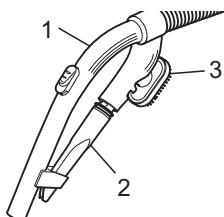

Fig.5
■ The crevice nozzle and the furniture and upholstery brush are included as **accessories** in the scope of delivery. They can be secured to the accessories mount (Fig. 5/1).
- **Crevice nozzle (Fig. 5/2)**
- **2-in-1 combi-nozzle (Fig. 5/3)** to be used as: